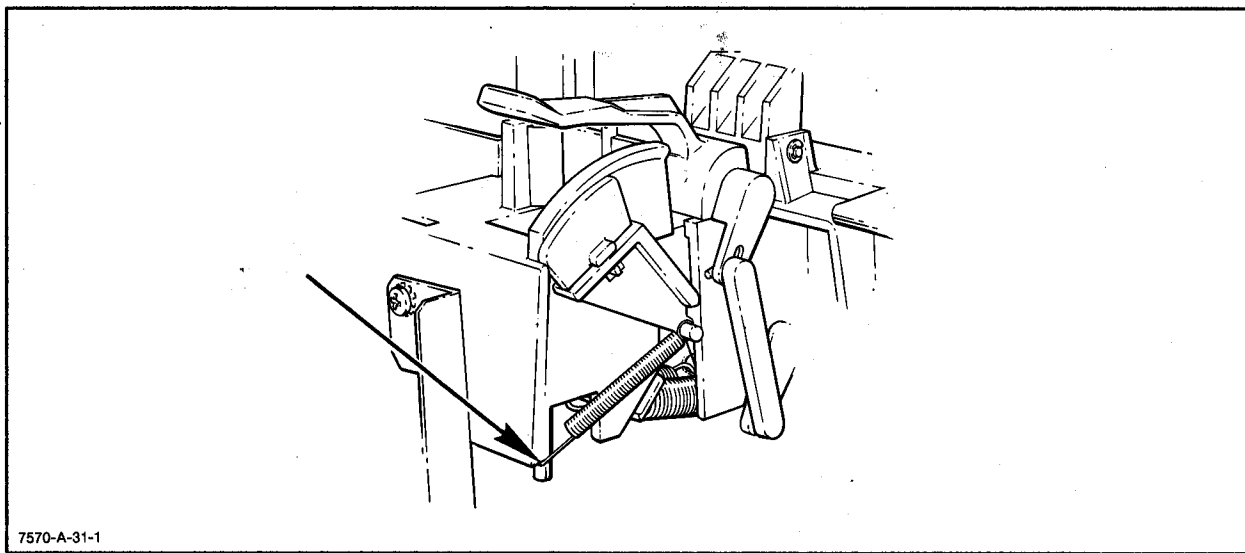

Figure 6-28. Front Paper Alignment Arm
- e. Remove the spring from the front paper alignment arm. See Figure 6-28.